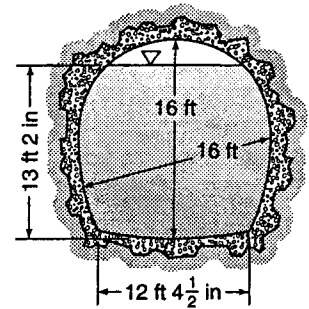

Figure X10.3.5
- 10.3.5 Figure X10.3.5 shows a tunnel section on the Colorado River Aqueduct. The area of the water cross section is 191 ft^2 , and the wetted perimeter is 39.1 ft . The flow is 1600 cfs . If $n = 0.013$ for its concrete lining, find the slope.